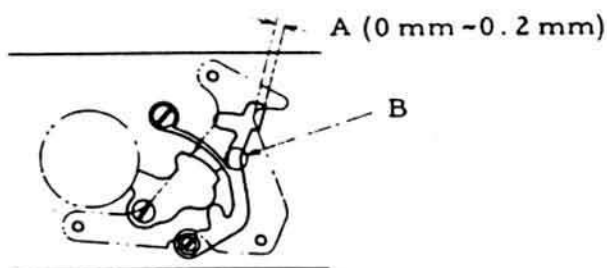

Fig. 15 (With the mechanism wound)
- 3) Adjust the Anchor Release Lever by using Tool (Anchor Release Lever Positioning Tool-1) so that A value (0 to 0.2mm) in Fig. 15 can be assured at the Lever end.